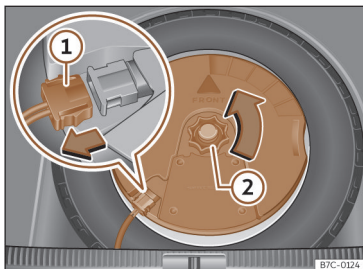

Fig. 225 In the boot: remove the subwoofer.
- Disconnect the subwoofer's speaker cable >>> **Fig. 225** ①.
- Turn the securing wheel anti-clockwise >>> **Fig. 225** ②.